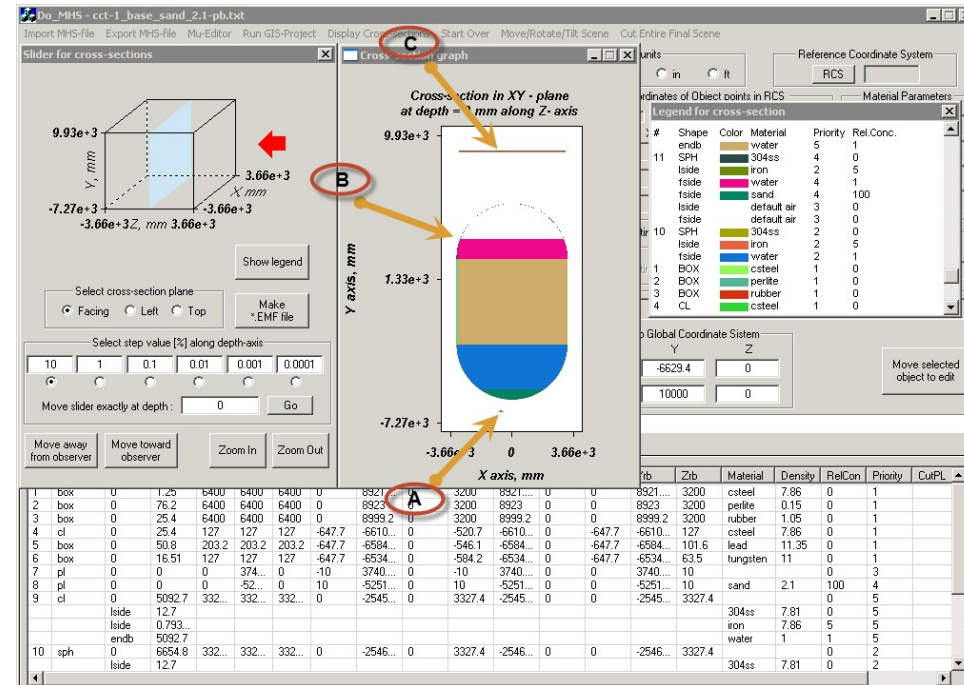

Figure 6: Example basement SuperISOCS model description.
- Example model is shown in figure 6 (to the right).